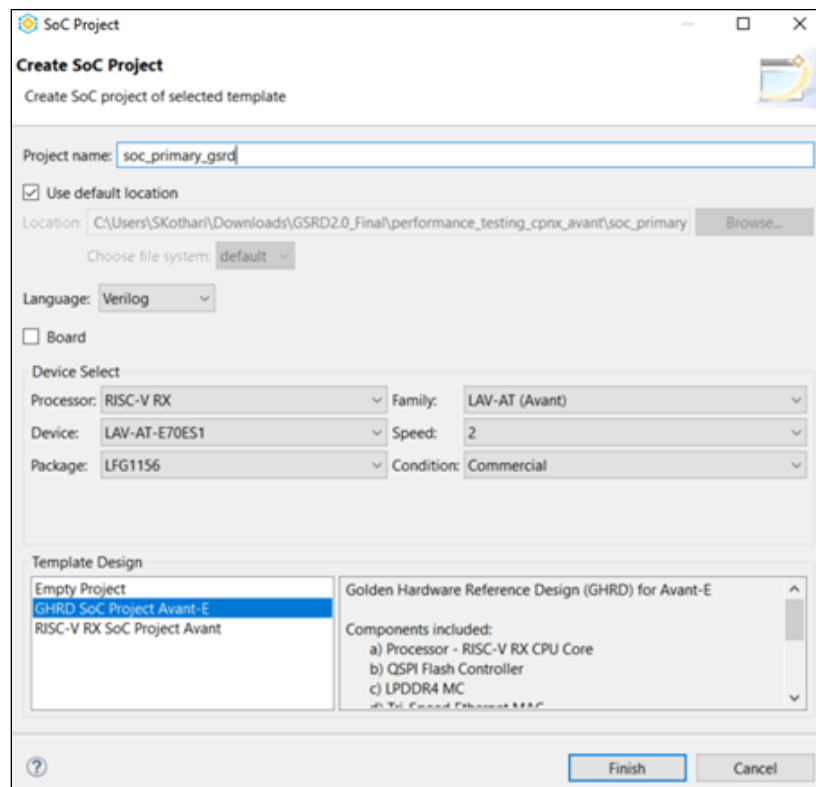

Figure 8.4. SoC Project Window
5. On the SoC Project window, provide name for your SoC project. Choose Processor as **RISC-V RX**, Family as **LAV-AT**, Device as **LAV-AT-E70ES1**, Package as **LFG1156**, and choose the GHRD SoC Project Avant-AT-E from Template Design as shown in Figure 8.4. Since you can make your own desired modifications to this project, the project name is called as **soc_primary_gsrd**.